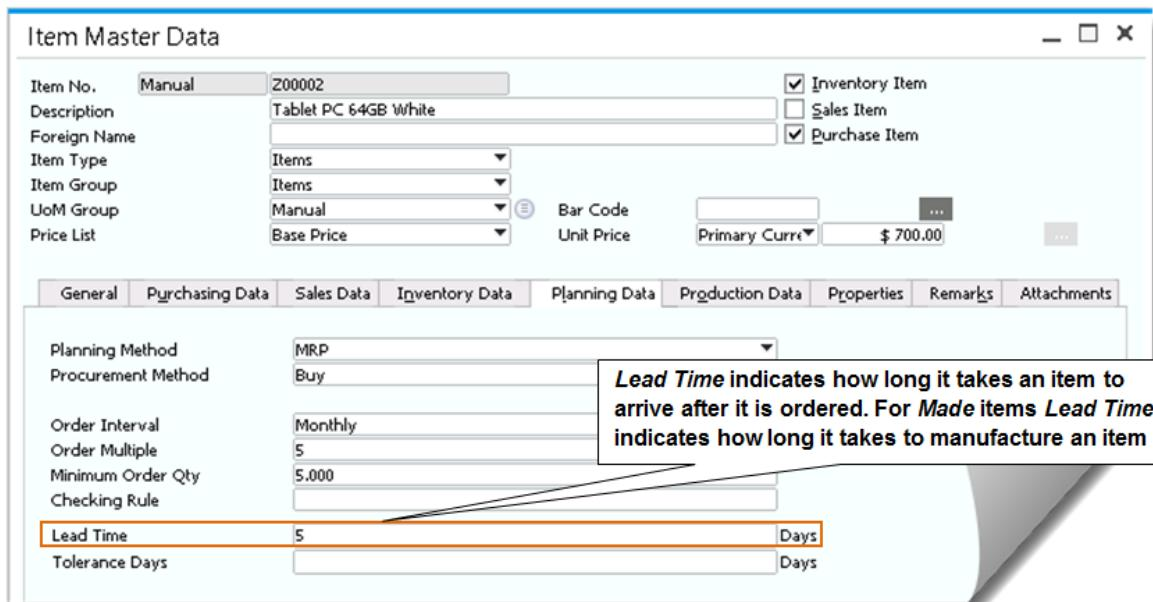

Figure 7-2: *Lead Time* field used in MRP calculations
Figure 7-2 shows the *Lead Time* field on the *Planning Data* tab of the *Item Master Data* window (available by choosing *Inventory* from the *Main Menu*). This is one of the most important fields to specify correctly because the accuracy and usefulness of the MRP run is governed by this data.
- Specify the lead time it takes to purchase or make the item, as shown in Figure 7-2